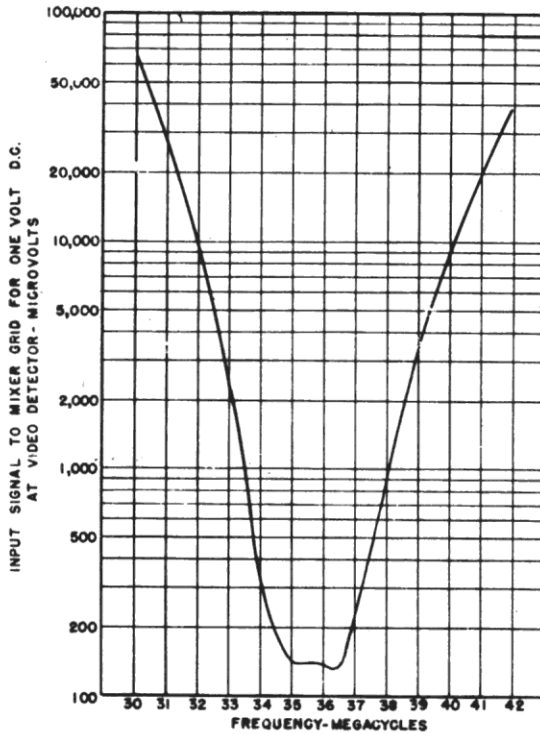

Figure No. 4. I.F. Amplifier Characteristic Curve
36.9 mc. The I.F. bandpass characteristic is shown in Figure No. 4. By use of the symmetrical curve, the local oscillator is operated on the low side on the high frequency channels to maintain oscillator stability. The plate supply to I.F. tubes V-5 and V-6 is shunt fed through R.F. chokes. This is done in the case of V-6 to keep the resistance in series with the I.F. plate and diode detector small. It is done in the case of V-5 to keep the impedance in the grid of V-6 small to prevent bias from developing on this grid by noise pulses which are of sufficient amplitude to draw grid current. If bias were produced, the gain would be reduced for a time following each noise pulse. Each noise pulse, which modulates the carrier towards the black level, is followed by a white tail which would prove objectionable on the picture. A.G.C. voltage is applied to the grids of the first and second I.F. tubes.